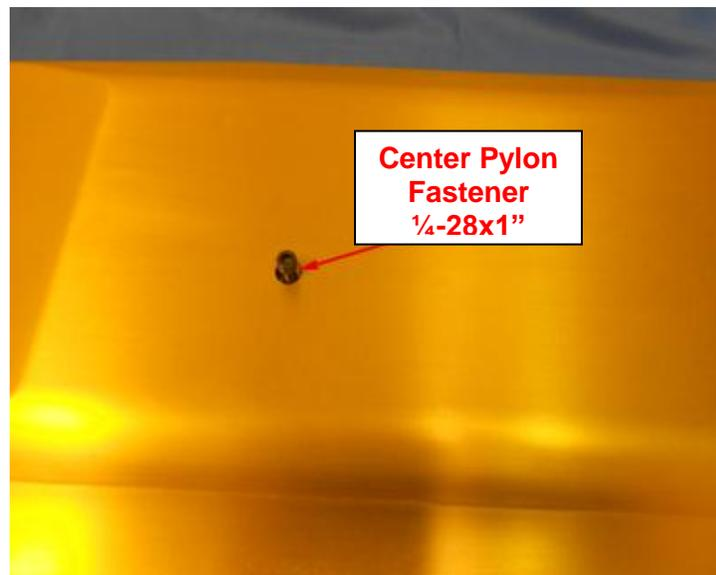

Figure 3.3.8. Location of center fastener on pylon.
5. Using a 3/16 Allen wrench, install the center pylon fastener, but **do not tighten it down completely (Figure 3.3.8)**. It may be necessary to push the pylon cover down by hand slightly to maintain alignment of the tongue and groove while the center fastener is being tightened.